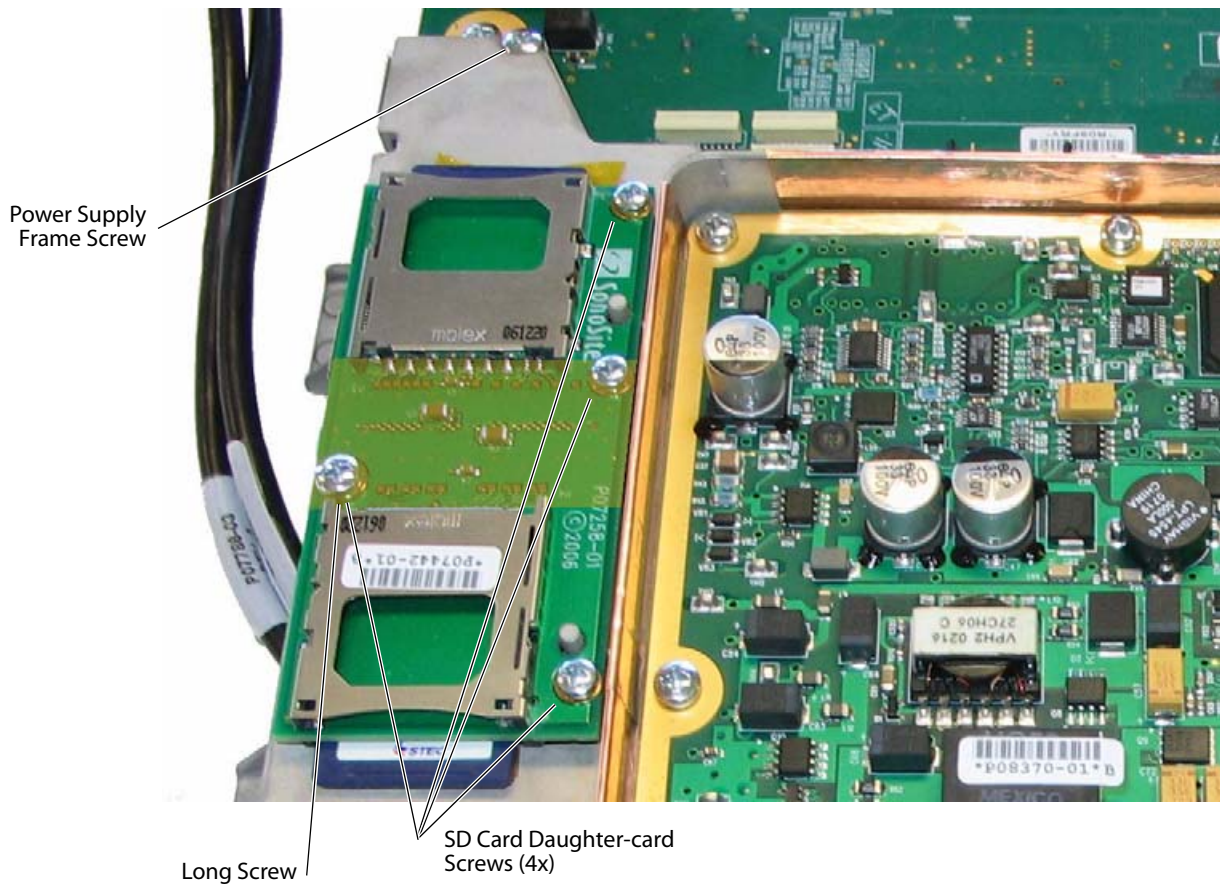

Figure 4.12 SD Card Daughter-card Screws
- 3 Remove the four screws that hold down the SD Card Daughter-card as shown in Figure 4.12. Note the location of the one longer screw for reassembly.
- 13** Install the daughter-card screws ensuring the proper location of the longer screw as shown in Figure 4.12 on page 24. Torque the screws to 5.5 inch/pounds (.622 Newton-meters).